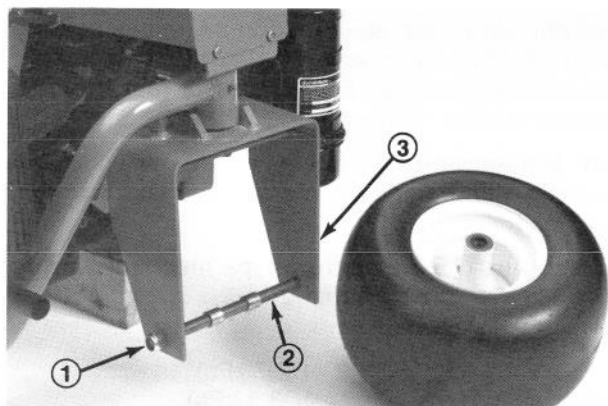

Figure 1
1. Remove bolt and locknut from the wheel mount holes in the rear castor fork (Fig. 1).